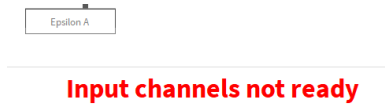

Figure 5-56: Error message in case of missing channel assignment
- If the assignment of a rosette input channel is missing, the error message *Input channels not ready* will be displayed at the bottom of the Channel Setup (see Figure 5-56)